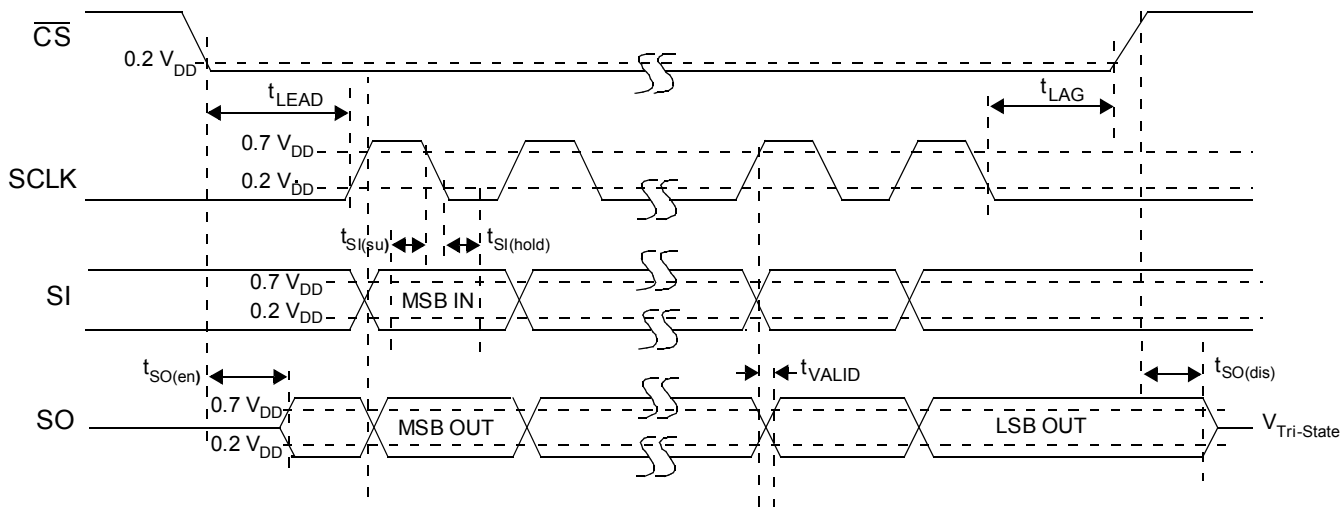

Figure 4. SPI Timing Characteristics
The Serial Input (SI) pin is used to enter one of seven serial instructions into the 33996. SI SPI bits are latched into the Input Shift register on each falling edge of SCLK. The Shift register is full after 24 bits of information are entered. The 33996 operates on the command word on the rising edge of \overline{CS} . To preserve data integrity, exercise care not to transition SI as SCLK transitions from high to low state (see Figure 4, page 8).